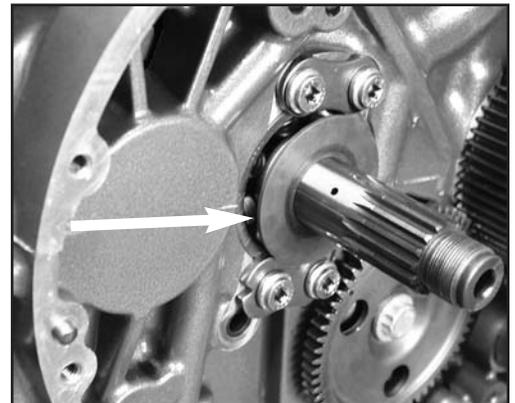

Fig. 3
5. Note the position of the thrust washer behind the clutch basket, **Fig. 3.**